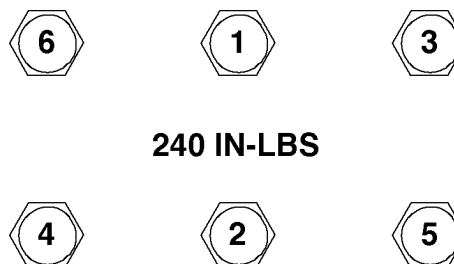

FIGURE E-2. CYLINDER HEAD TORQUE SEQUENCE
12. Position the gaskets and valve plate on top of the cylinder. Position the head on the cylinder and turn studs finger tight. Torque the studs/nuts to 240 in-lbs in 25-50 pound increments per Figure E-2.